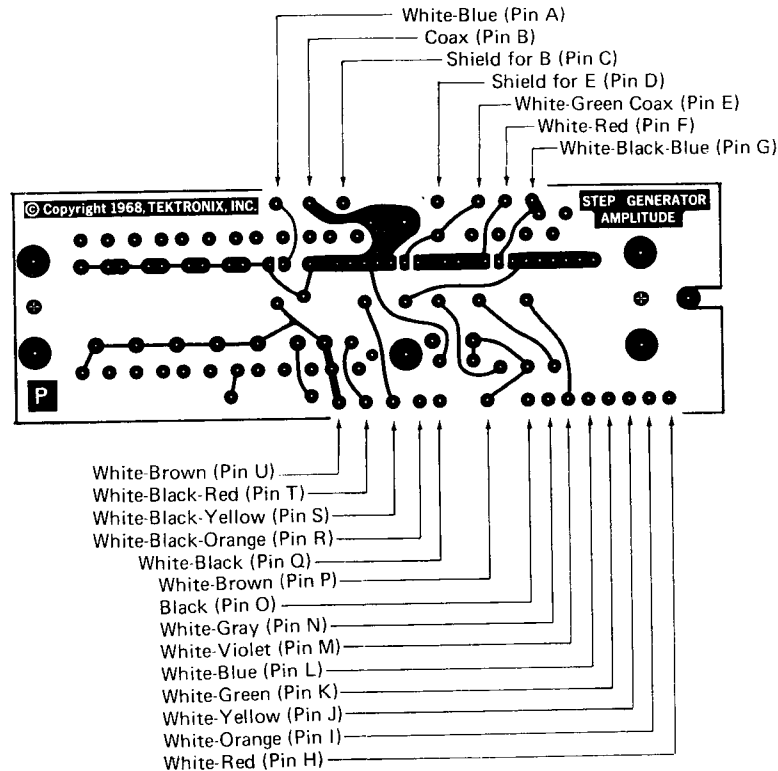

Fig. 2. Step Generator Amplitude circuit board wiring.
- ( ) 37. Connect the wires to the Step Generator Amplitude circuit board as shown in Fig. 2.